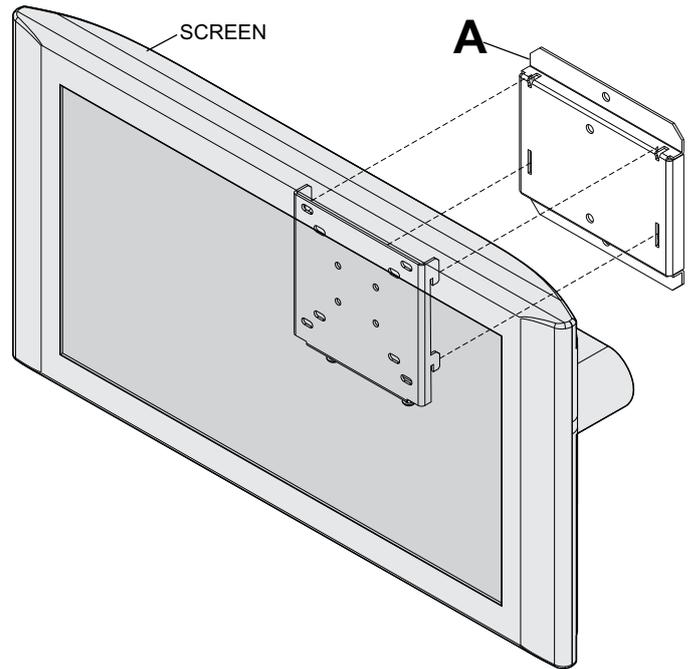

fig. 4.1
- 4** Hook screen onto wall plate (**A**) figure 4.1. Tighten M5 x 12 mm screws (**D**), shown in figure 4.2 and detail 1.